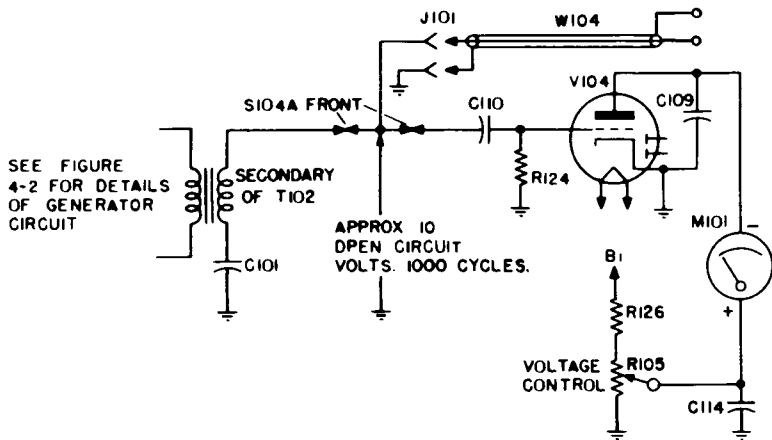

Figure 4-13. Capacitor Quality, Short Test Circuit
e. The SHORT test, Figure 4-13, employs the same electron tube voltmeter and meter setting procedure as the other test, but is supplied from the 1000 cycle generator of the ZM-11/U. The cable has no special electrical properties at this frequency and serves simply as a connecting means to the doubtful capacitor. Obviously, if the capacitor is shorted, the electronic voltmeter will receive no input and will remain at full scale. If the capacitor is not shorted, the meter reading will drop.